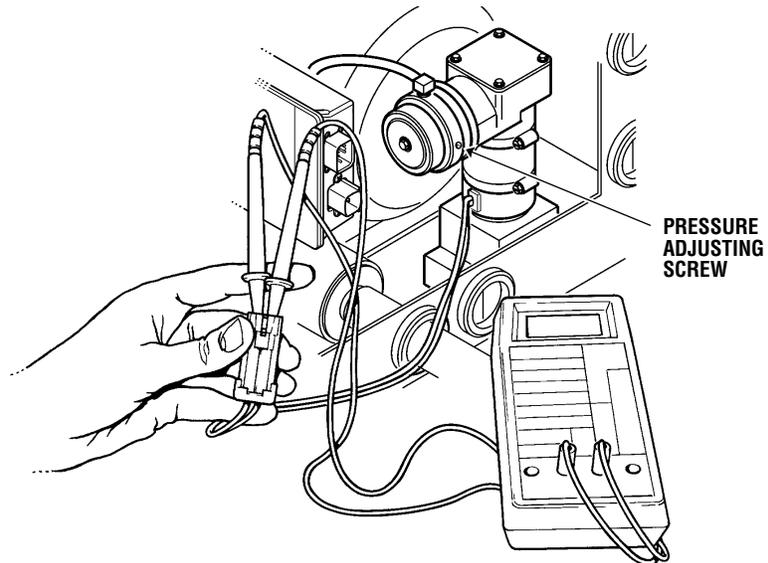

Figure 4-34. Compressor Test
2. Motor for internal short. (See figure 4-34 and Test Procedure.)